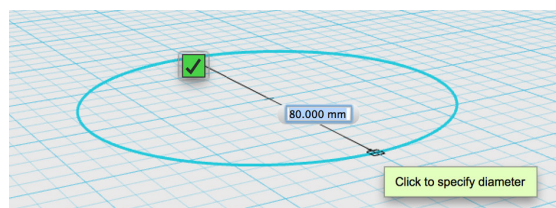

Figure 4-44 Set the size of the circle
3. Move your mouse away from the center point until the circle is the size you wish, and then click again to "set" that size. You can also type a specific dimension into the dialog box and then press the Enter key (Figure 4-44).